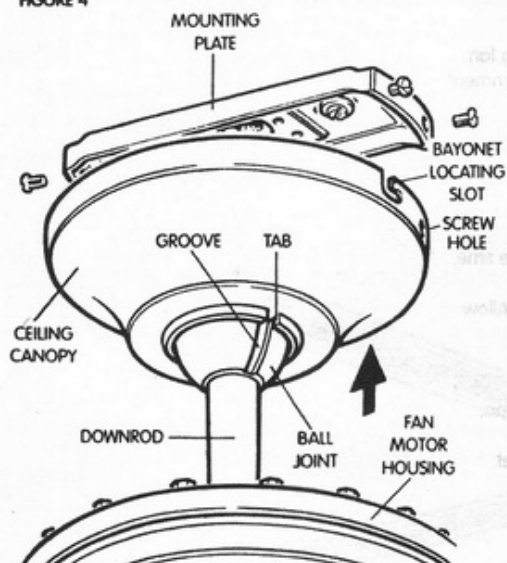

FIGURE 5
1. Attach the fan blades to the blade holder arms. The three smaller screws, washers and nuts supplied should be used to attach each blade to each blade holder (Figure 5).
2. Attach the other end of the blade holder arm to the fan motor housing using two screws and washers supplied for each blade holder arm (Figure 5). These screws should be firmly fitted and the blade holder arm must align itself completely flush with the fan motor housing.